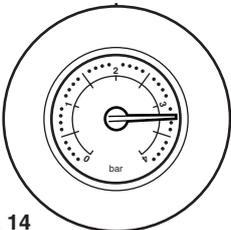

Fig. 14
3. A pressure of 3 or greater indicates a fault. The safety pressure relief valve will operate, at a pressure of 3 (Fig. 14). **It is important that your Installer or Service Engineer is contacted as soon as possible.**